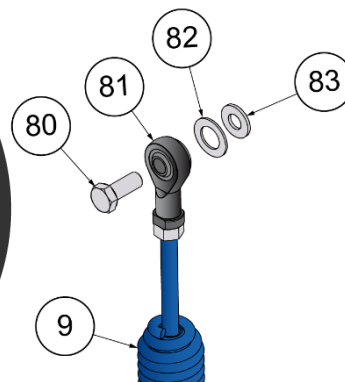

Fig. 3
- Unscrew the screw (80) for retaining the spring assembly on the hub and remove the faulty assembly ⇒ Fig. 3.
- Replace the spring assembly (9) and put the washers (82 & 83) and the fastening screw (80) back into position. Screw down everything.